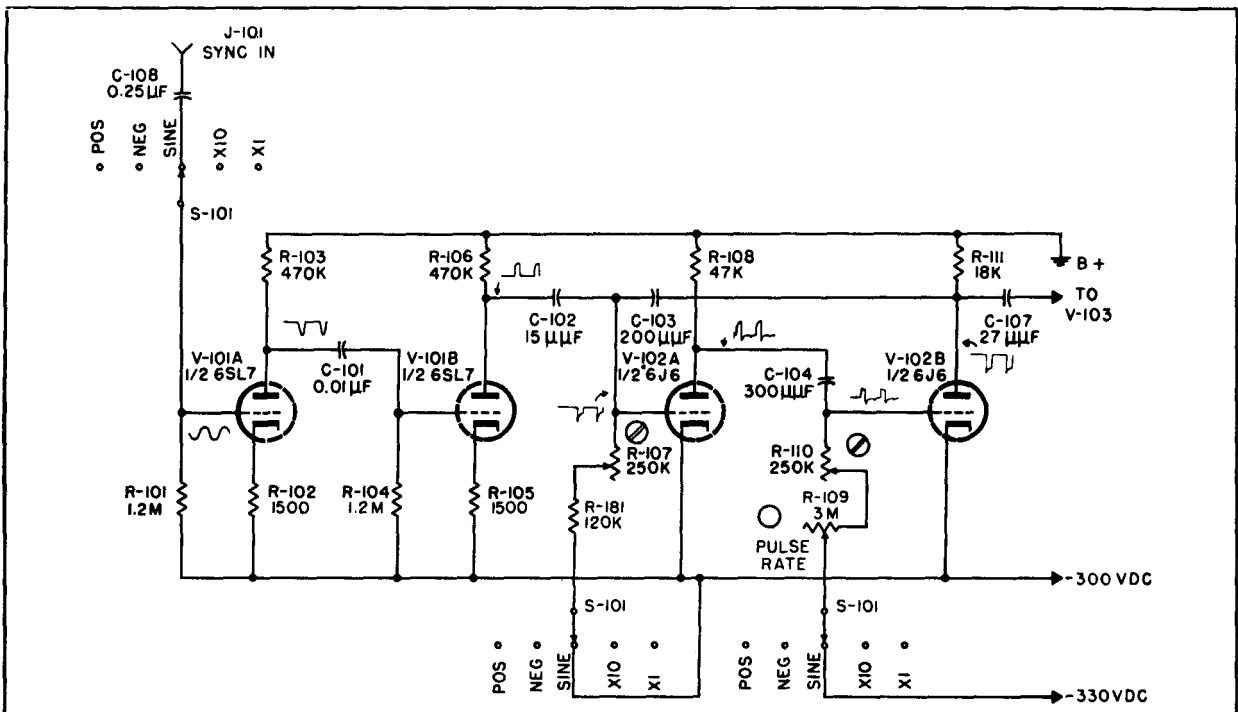

Figure 3-9. External Sine Wave Sync. Circuit
(2) EXTERNAL SINE WAVE.-When the Pulse Rate Multivibrator is synchronized with an external sinusoidal voltage (figure 3-9), the grid of V-102A is returned to the cathode through S-101 while the grid of V-102B is returned to a point about 30 volts negative with respect to the cathode. Thus, V-102A is drawing heavy plate current and V-102B is cut off. This is a stable condition and the circuit thus does not act as a multivibrator on external sinusoidal voltages but more as a pulse repeater.